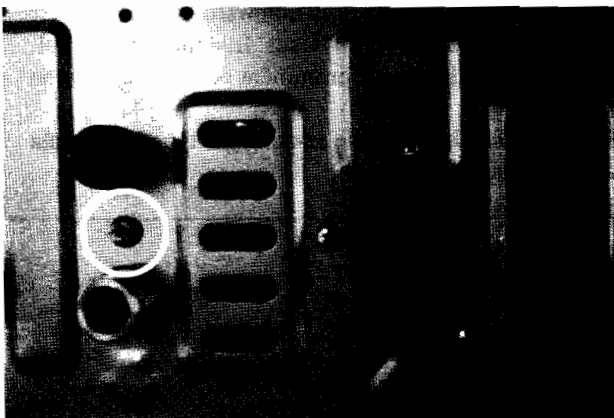

Figure 51
- ☐ Remove the screw securing the left part of the hydroblock to the combination boiler (*figure 51*).